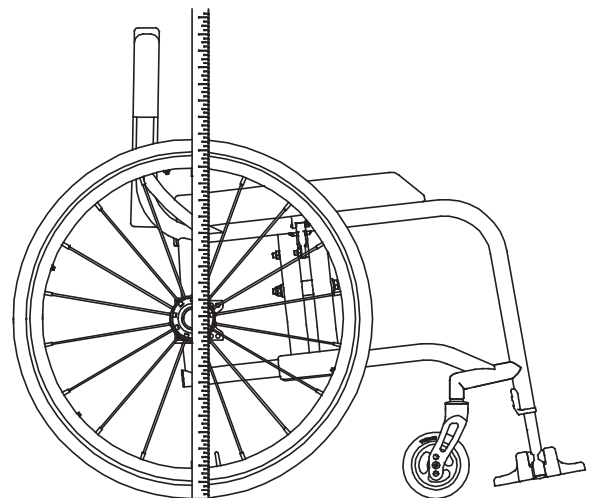

Figure 60
3. Place the chair on all four wheels with the front casters trailing toward the rear of the frame. See Figure 60.
4. Measure from the floor to the center of the axle ("Measurement A"). Be sure the tape measure/ruler is perpendicular to the floor. See Figure 60.